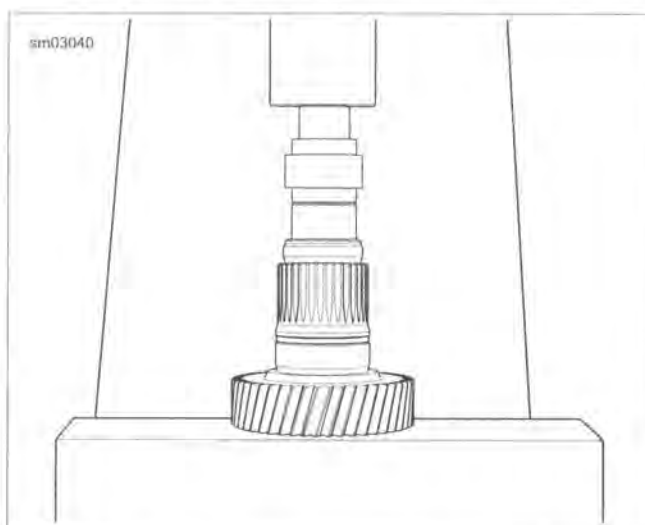

Figure 6-42. Installing Outer Needle Bearing in Main Drive Gear
- See Figure 6-42. Install outer needle bearing using an arbor press and the 0.400 in step end of tool as shown. Press until tool contacts gear.